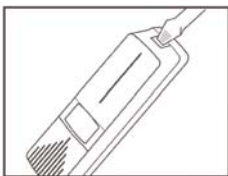
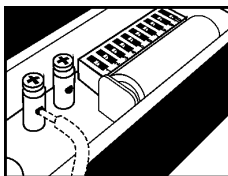

Figure 1
Figure 2
- Remove doorbell button cover by inserting a small screwdriver into the slot at the bottom of the doorbell button and twisting slightly. (Figure 1)
- Remove new Doorbell button's cover by inserting a small screwdriver into the slot at the bottom of the Doorbell button and twisting slightly. (Figure 1)
- Attach wires to terminals (posts) on Doorbell button circuit board (Figure 2). Thread a short length of bare copper into the hole in one terminal. Secure with screw atop terminal.
- To access the channel adjustments on the doorbell button, remove the cover of the doorbell button by depressing the small latch at the bottom (Figure 1.) Find the dip switches inside and change the position of one or more of the switches **numbered 1 through 7.**
- To change to the other tone, remove the cover of the doorbell button (Figure 1), and reverse the positions of Dip switches 9 and 10 (Figure 2).